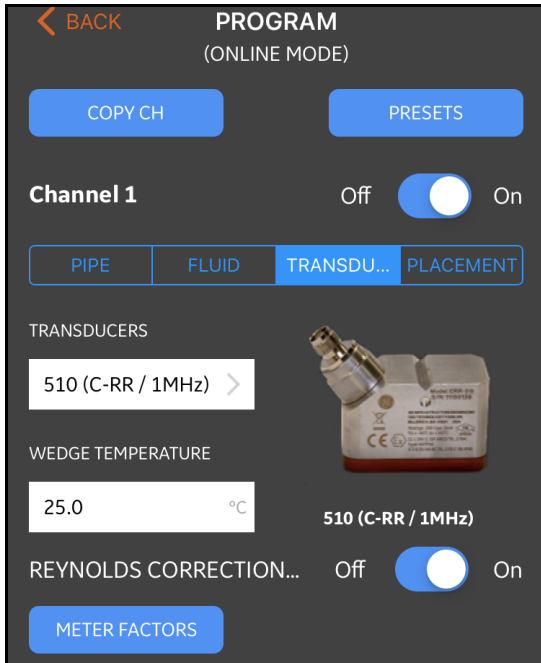
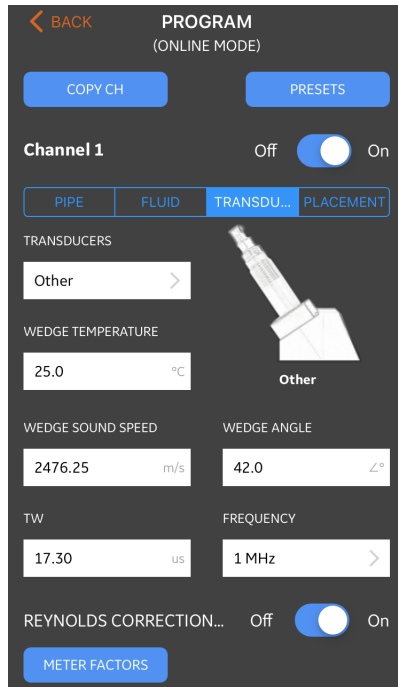

Figure 87: The TRANSDUCERS Menu
Figure 88: Transducer Menu parameters
The **TRANSDUCERS** menu allows the user to specify all the parameters of the transducers that are required to ensure accurate ultrasonic flow rate measurements. An example of this menu is shown in *Figure 87* below. See the following sub-sections for the options available in programming the transducers.
To program your transducer parameters, refer to *Figure 87 on page 73* and complete the following steps:
2. If you select standard transducer from the drop down, you will need to enter only the **WEDGE TEMPERATURE** (see Figure 87). But if you select **other** as your transducer model, few additional parameters will appear on the screen (see Figure 88) and you must edit this data with the correct specific information.
The **REYNOLDS CORRECTION FACTOR** can be set to either **On** or **Off** (see *Figure 87 on page 73*). This factor corrects the fluid velocity measured across a diametrical path so that it more accurately represents the average fluid velocity across the entire cross-sectional area of the pipe. The **REYNOLDS CORRECTION FACTOR** should be turned **On** for all clamp-on measurements.
To program the **METER FACTOR**, refer to *Figure 87 on page 73* and complete the following steps: